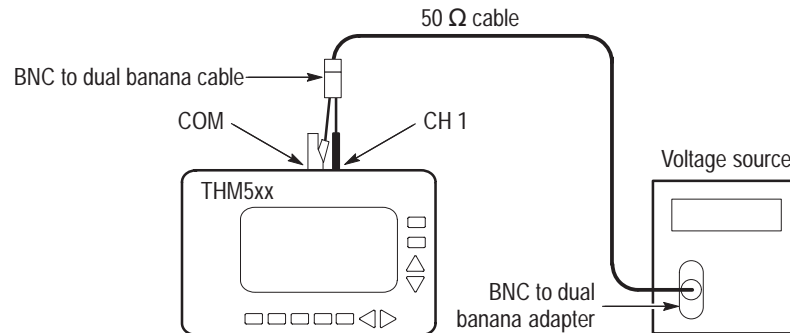

Figure 7: Vertical accuracy test setup
1. Connect the voltage source output to the THM500 series instrument CH 1 and COM inputs as shown in Figure 7. Assure that the ground connection for each adapter connects to the common (or ground) connector of its associated instrument.